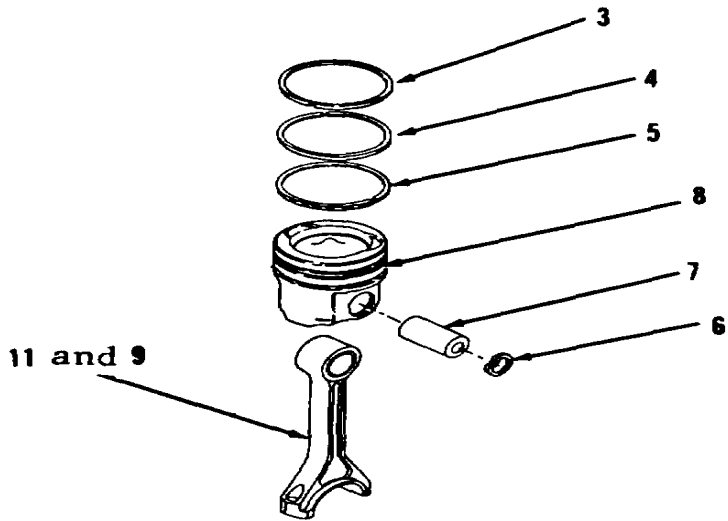

Figure 13-47.
3. Install items 11 and 9 as an assembly into piston (8, Figure 13-47) with bearing tab groove on same side as valve cutouts in piston head.